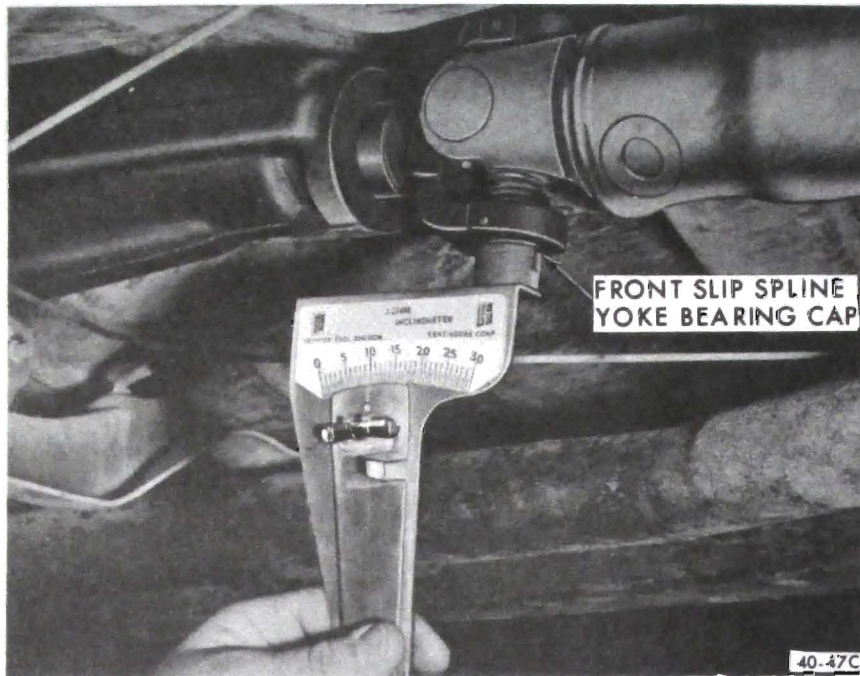

Figure 40-61 Measuring Angle at Front of Propeller Shaft
5. Rotate propeller shaft 90° and place inclinometer on front slip spline yoke bearing cap. See Figure 40-61. Center bubble on sight glass and record measurement.